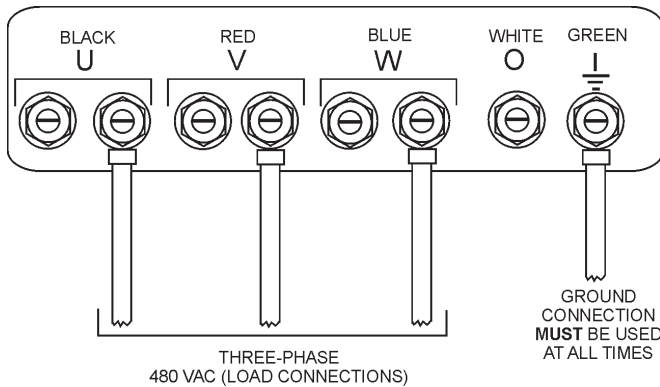

Figure 27. UVW Terminal Lugs 3Ø-480V Connections
2. Connect the load wires to the UVW terminals as shown in Figure 27.